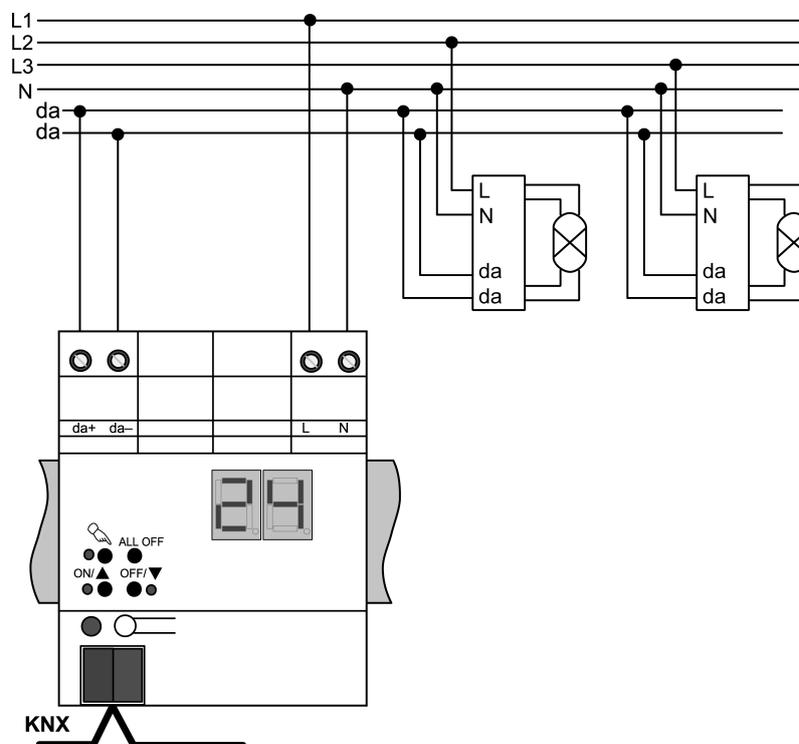

Figure 2
- Connect device as shown in the connection example (see figure 2).